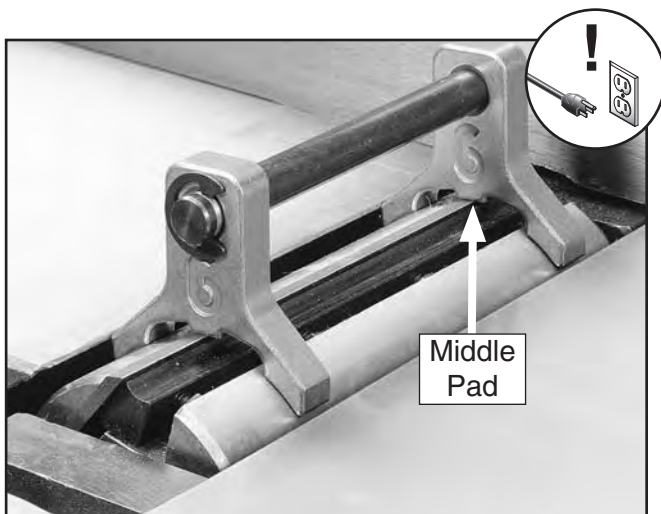

Figure 65. Gauge positioned over cutterhead knife.
5. Place the knife gauge on the cutterhead, directly over a knife, as shown in **Figure 65**.
5. Position the knife gauge over the knife as shown in **Figure 65** and loosen the gib bolts until the knife is completely loose.